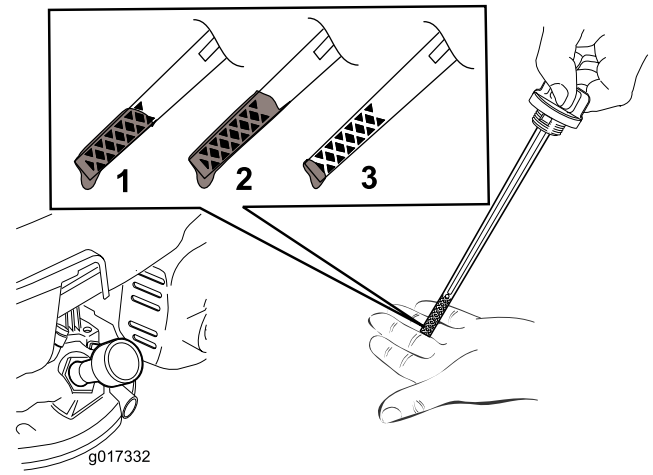

Figure 38
3. Check the oil level on the dipstick (Figure 38).